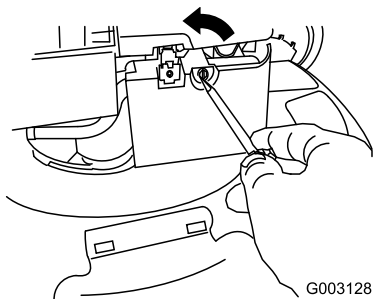

Figure 28
2. Use a screw driver to open the air filter cover (Figure 28).